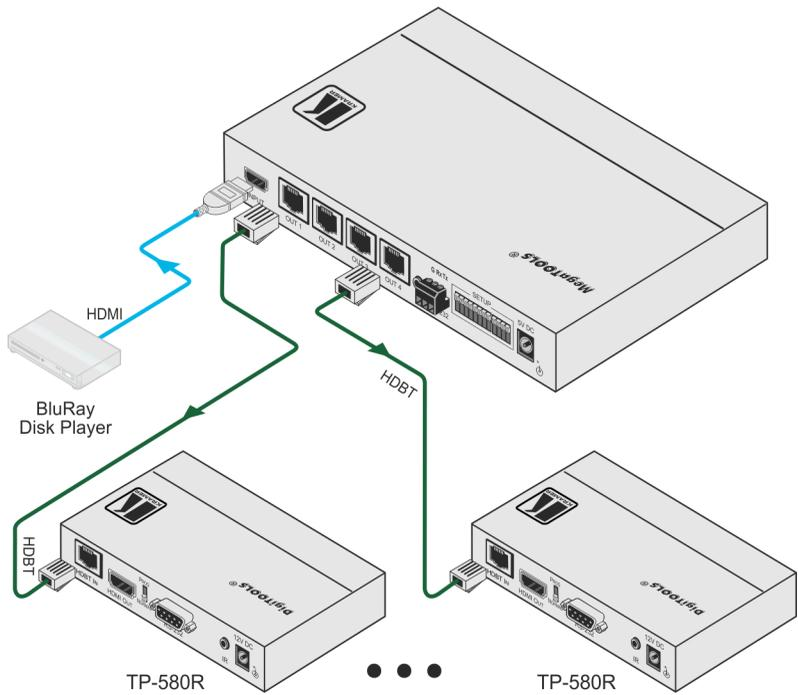

Figure 2: Connecting the VM-4HDT 1:4 HDMI to HDBT DA
Connect the **VM-4HDT** as illustrated in the example in Figure 2:
3. Connect the 5V DC power adapter to the power socket unit and then connect the adapter to the mains electricity (not shown in Figure 2). The ON LED lights.